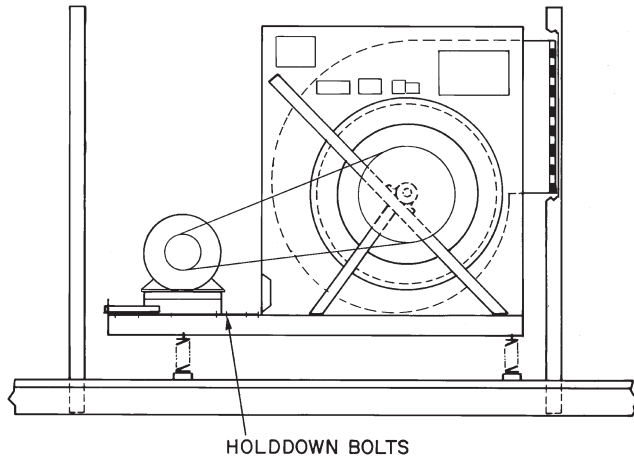

Fig. 49 — Motor Plate Adjustment
1. Loosen holddown bolts. (See Fig. 49.)